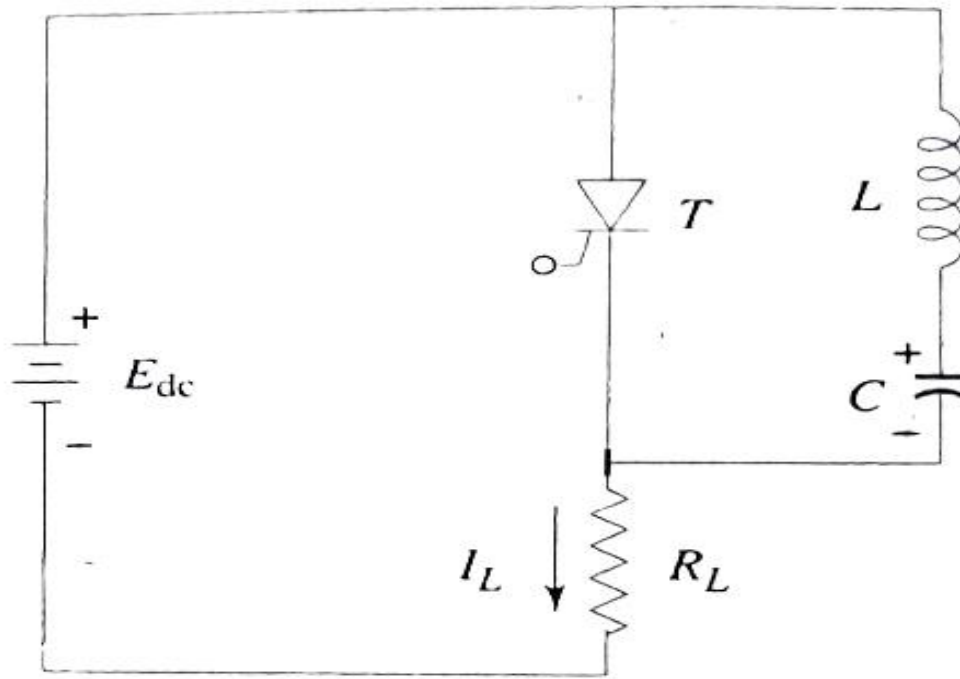
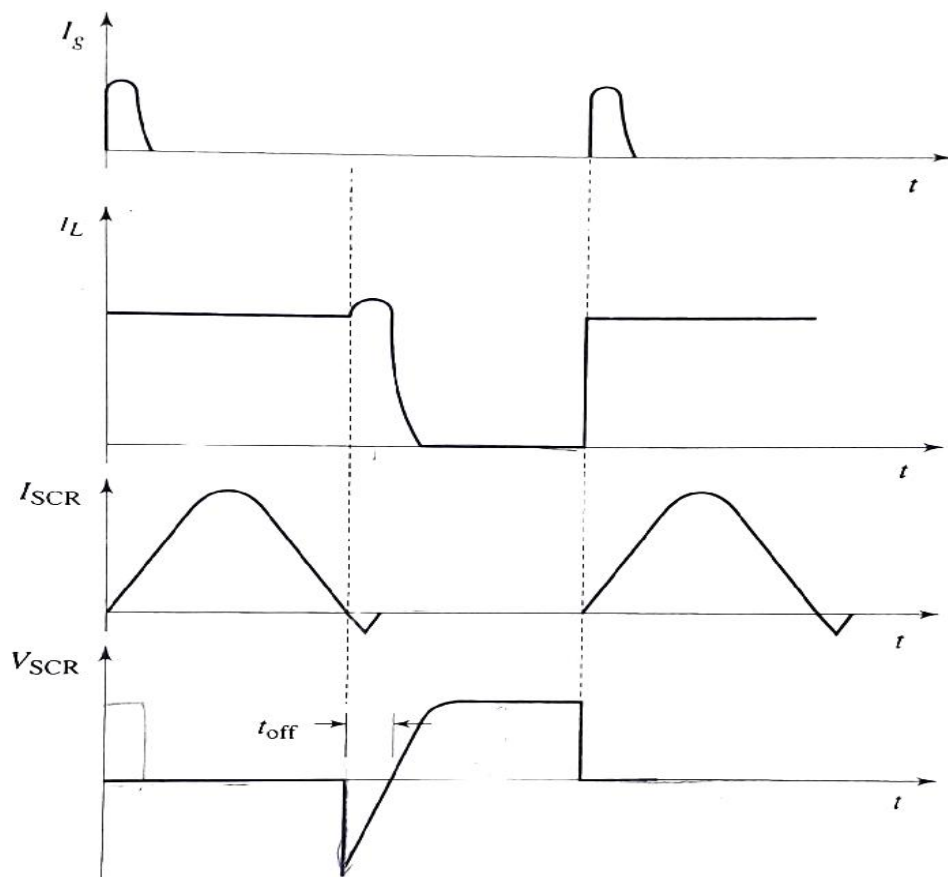

Fig. 1.15 Class B commutation circuit
Fig. 1.16 Associated waveforms
- The commutating circuit is shown in Fig.1.15 & the associated waveforms are shown in Fig.1.16.